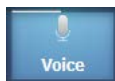

Figure 4-11 Voice listening state (English only)
- 3 Use the wake gesture by raising your hand to the level of the camera and create an open palm facing the monitor. The monitor enters into an awake state indicated by a blue border around the screen and a blue **Gesture** icon on the navigation bar. This functionality is similar to the voice awake state. See figure 4-11 on page 93 for an image of how the blue border will appear in the awake state.